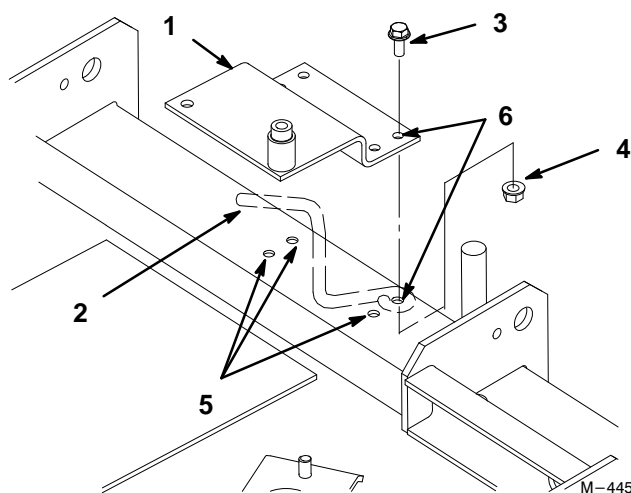

Figure 3
1. Remove existing belt guide and hardware and discard (Fig. 3).
2. Align hole in bracket to the hole the belt guard was installed in (Fig. 3).
3. Position belt idler bracket rear edge parallel to the rear edge of deck (Fig. 3).
4. Install one bolt through the bracket and where the belt guide was installed in deck. Install nut and tighten (Fig. 3).
5. Using bracket as a template, drill three 21/64" holes into deck (Fig. 3).
6. Install bolts into bracket and securely tighten bracket to the deck with nuts (Fig. 3).